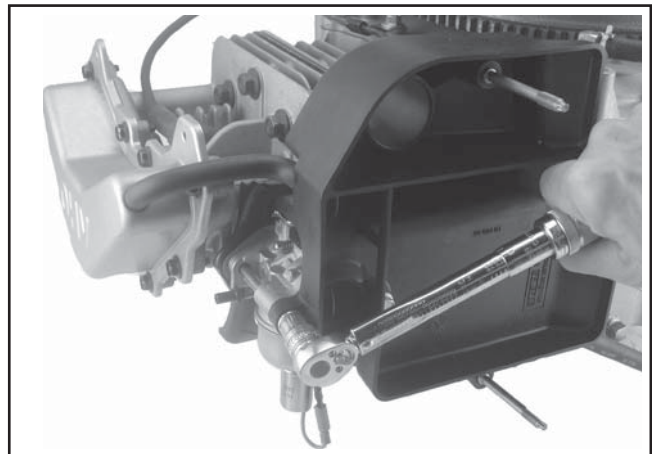

Figure 10-67. Torquing Air Cleaner Fasteners.
- c. Torque the nut(s) to 5.5 N·m (48 in. lb.). Torque the screw to 8.0 N·m (70 in. lb.) into a new hole, or 5.5 N·m (48 in. lb.) into a used hole, **do not** over tighten. See Figure 10-67. The M6 screw for the upper tab will be installed when the blower housing is mounted.